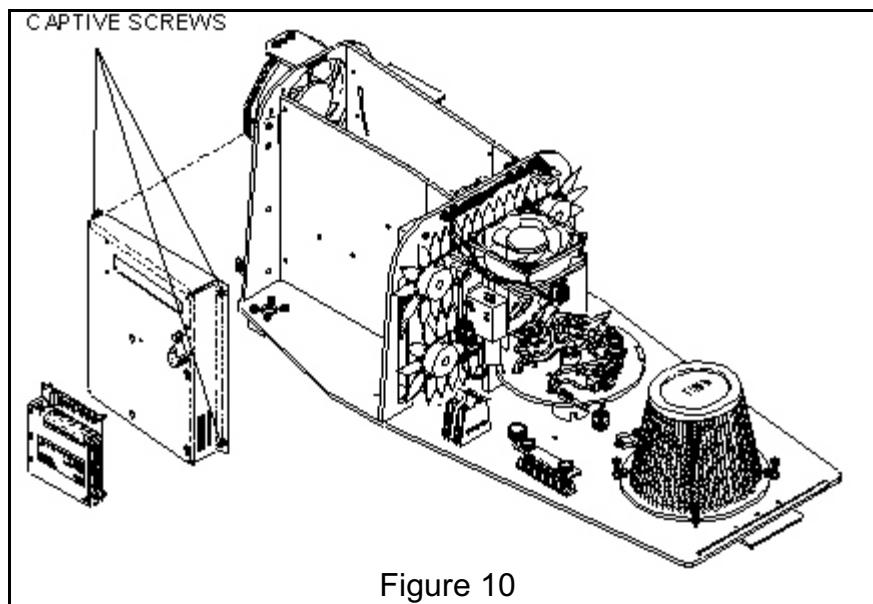

Figure 10
3. Unscrew the four screws that hold the control module assembly to the left web assembly. These are captive screws and will remain connected to the control module (Figure 10).